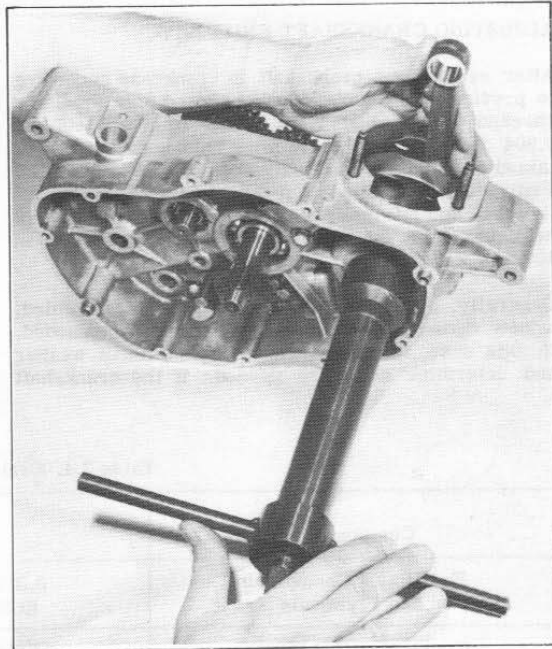

Figure 3.24. Reinstalling Crankshaft Assembly In Right Crankcase Side
Assemble crankshaft assembly in right crankcase side (27), Figure 3.13, using tool, Part No. 97297-61PA, and spacer, Part No. 96111-74, as shown in Figure 3.24. Position a new gasket (28) on right crankcase surface. Slip left crankcase side into po-